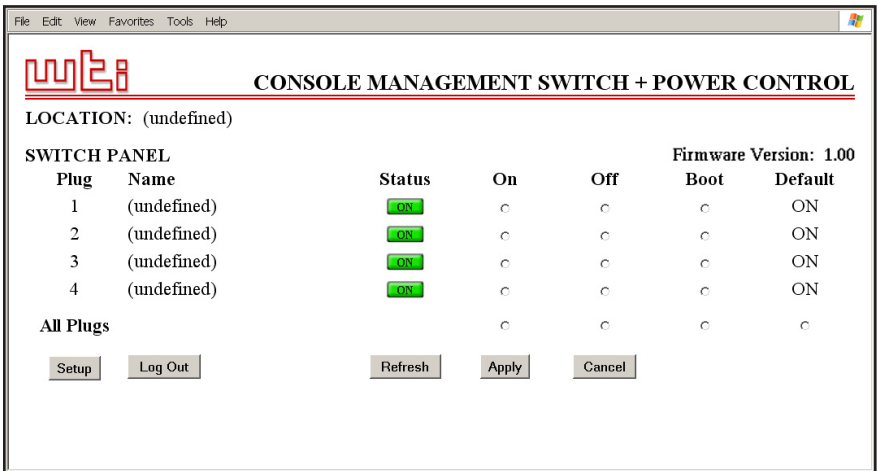

Figure 3.1: Main Status Screen - Web Browser Interface
- Password Prompt:** Normally at this point, no user accounts have been defined yet, so if the password prompt is displayed, you can simply press **[Enter]** or click "OK" to bypass the prompt. However, if you have previously defined one or more passwords, enter the username (Web Interface only) and password and then press **[Enter]** or click "OK." The Status Screen should be displayed as shown in Figure 3.1 or 3.2.